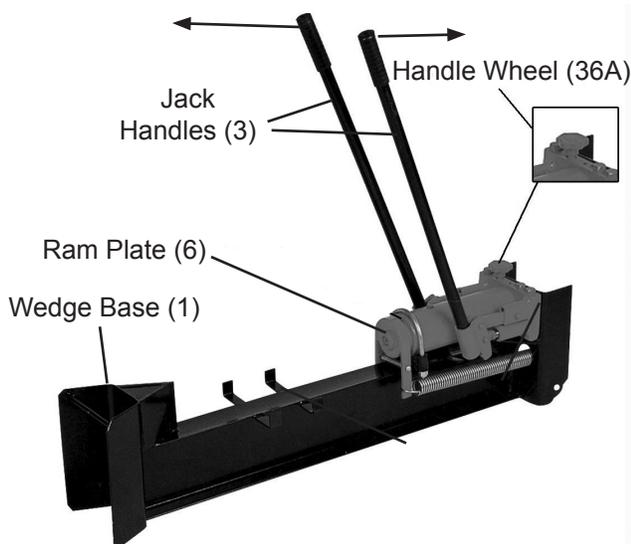

Figure 2
1. Grip one Handle in each hand and pump the Handles in a back-and-forth stroke motion. See Figure 2, below.
4. Turn Handle Wheel (36A) counterclockwise no more than one full turn to retrieve the Ram. See Figure 2.